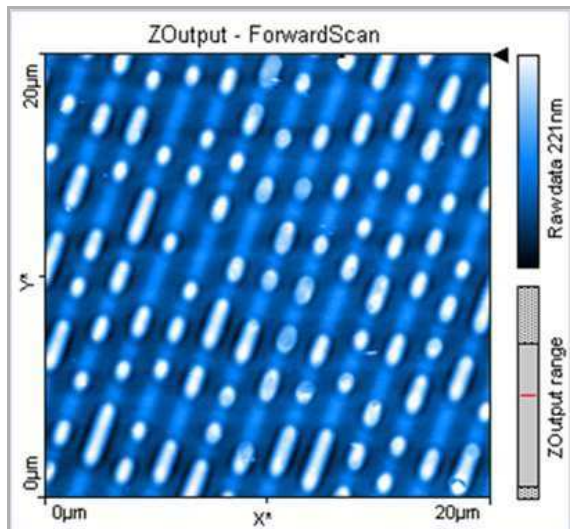

Figure 33: 20- μm Image of CD Stamper. Note that the curvature of the tracks is not discernible at this scan size.
3. Take an image of well-ordered bumps at least 5 or 6 tracks wide. Try to get an image similar to Figure 33: 20- μm Image of CD Stamper, which is suitable for measuring the bump length (Figure 34: Bump length). Furthermore, you can determine the track distance if interested.